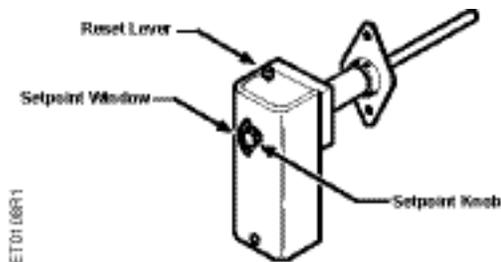

Figure 2.
The setpoint adjustment knob (see Figure 2) permits adjustment of the setpoint between 25°F and 215°F (-4°C and 101°C).
3. Loosen the stop screw, slide the screw to the front of the control against the plastic stop behind the dial, and tighten the screw (see Figure 2). Sometimes, an exact stop setting is not possible, and the stop must be set to the closest stop corresponding to the required dial setting.